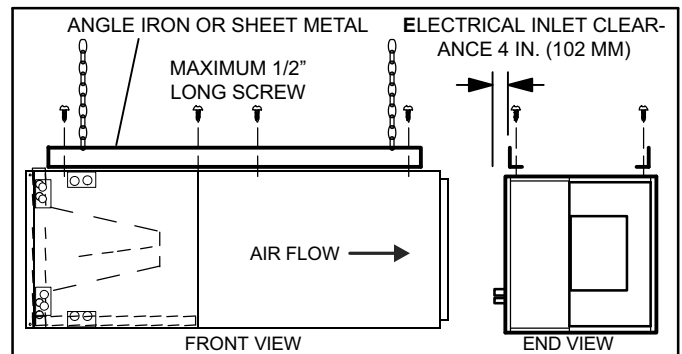

Figure 3. Suspending Horizontal Unit
- 5 - If the unit is suspended, the entire length of the cabinet must be supported. If you use a chain or strap, use a piece of angle iron or sheet metal attached to the unit (either above or below) to support the length of the cabinet. Use securing screws no longer than 1/2 inch to avoid damaging the coil or filter. See figure 3. Use sheet metal screws to connect the return and supply air plenums as required.